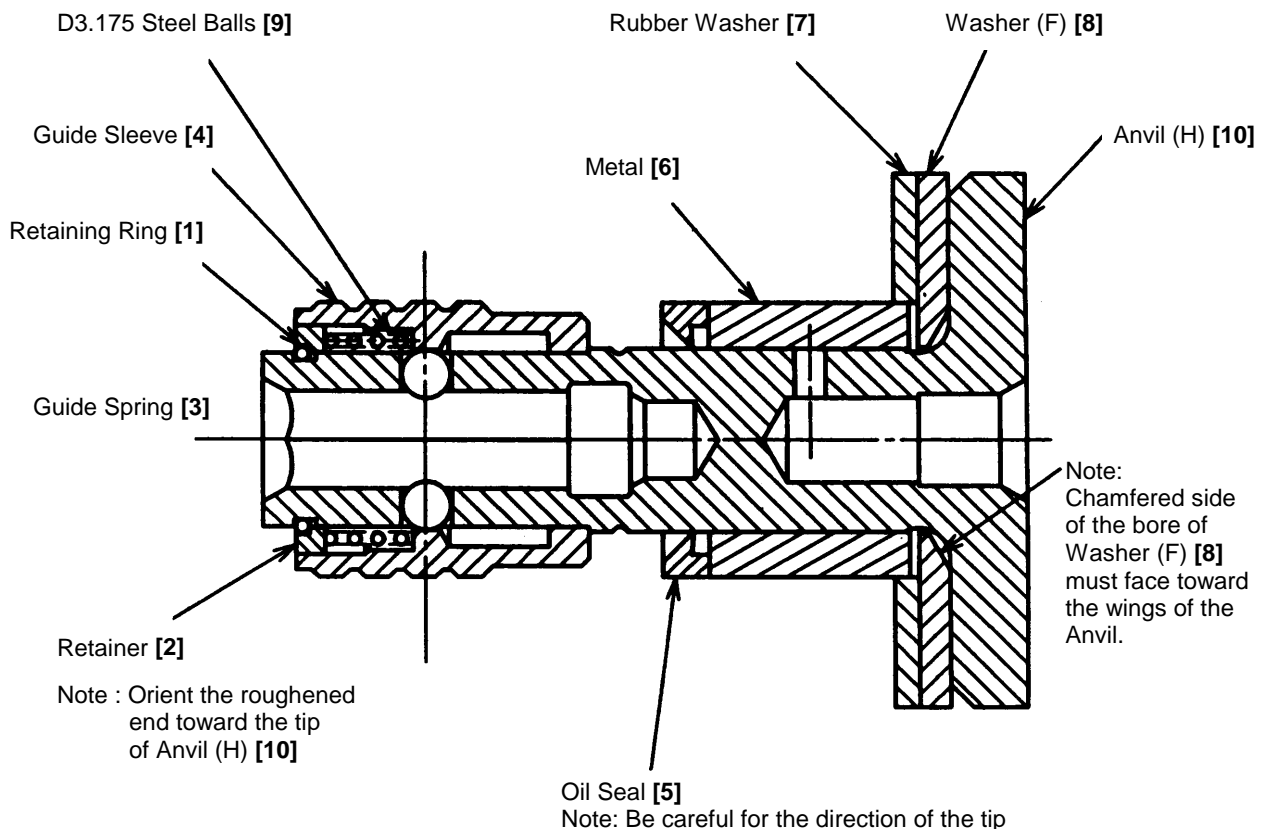

Fig. 4
(B) Mount the Rubber Washer [7] and the Metal [6] onto Anvil (H) [10]. Then, as illustrated in Fig. 4, mount the Oil Seal [5] as indicated so that there will be no grease leakage.